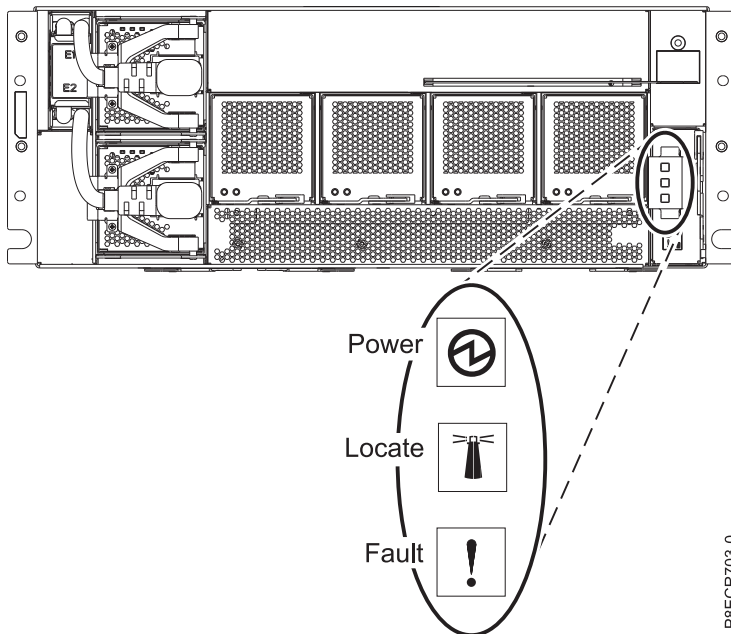

Figure 7. Front power indicator in the EMX0 PCIe3 expansion drawer
3. Ensure that the power indicator, which is on the front of your EMX0 PCIe3 expansion drawer, is turned on. See Figure 7.